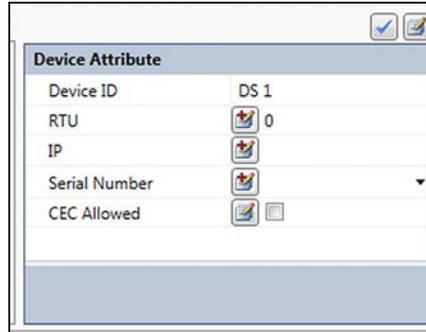

Figure 63. Multi-Update buttons on the Device Attribute dialog box.
**STEP 4.** The multiple attributes that contain the **Multi-Update** button also can be automatically updated. A **Multi-Update** button with a “+” indicates the multi-update function will increment the values. For example, a multi-update applied to the RTU attribute will set the devices’ RTU values to 1, 2, 3, ... while a multi-update to the CEC Allowed attribute will set all selected devices to **CEC Allowed** mode. See the following steps about invoking multi-updates. See Figure 63.